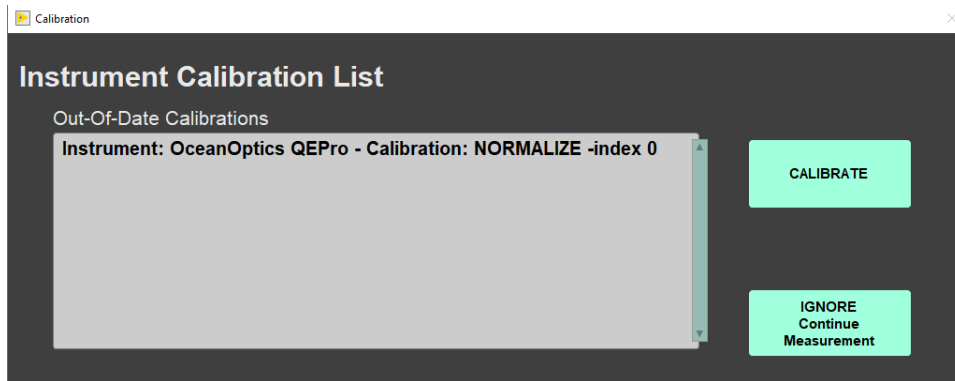

Figure 22. Instrument Calibration Prompt
1. If the QE Pro is out of calibration, the **Instrument Calibration List** screen will appear (Figure 22).